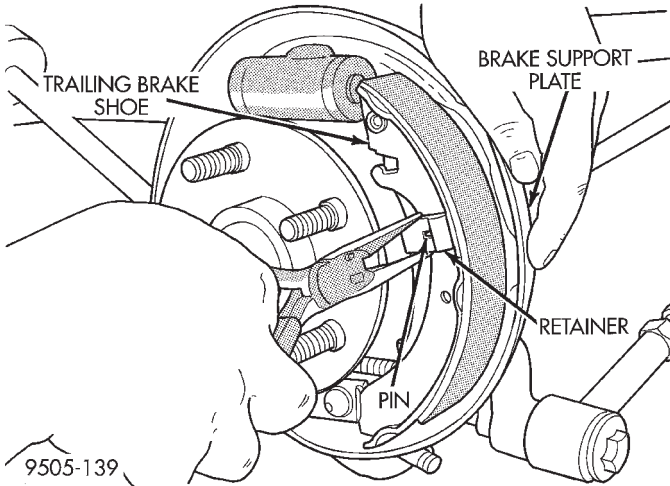

Fig. 113 Trailing Brake Shoe To Support Plate Retainer
(11) Remove the brake shoe retainer and pin, (Fig. 113) from the trailing brake shoe.
(12) Remove the trailing brake shoe assembly from the brake support plate.
will be positioned behind the brake shoe web (Fig. 113).
(3) Install the correctly handed trailing brake shoe on the support plate so it is squarely seated on the shoe contact areas. Then install the brake retainer on the retainer pin (Fig. 113).